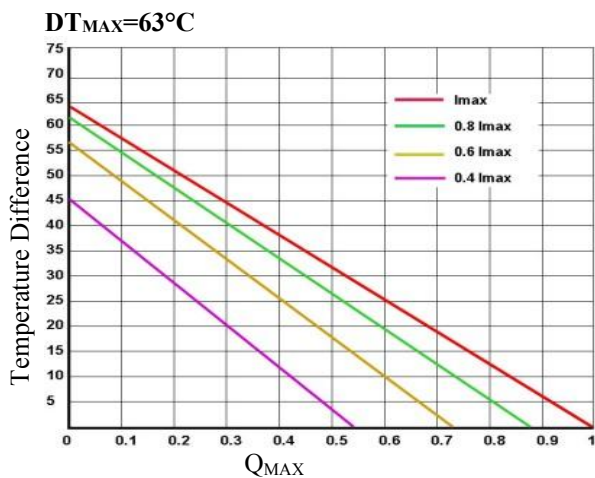
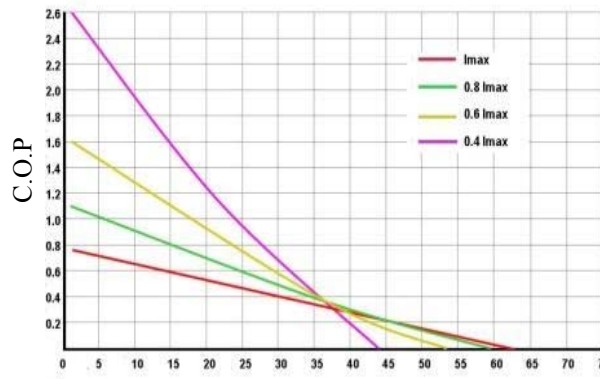

Figure 2. Temperature Difference vs. Q_{MAX}
Figure 5. C.O.P vs. Temperature Difference
5. Use the charts provided in Figure 2 to Figure 5, to decide which TEC to use, what is the heat needed to be dumped through the heat sink, what is the heat sink temperature, etc.